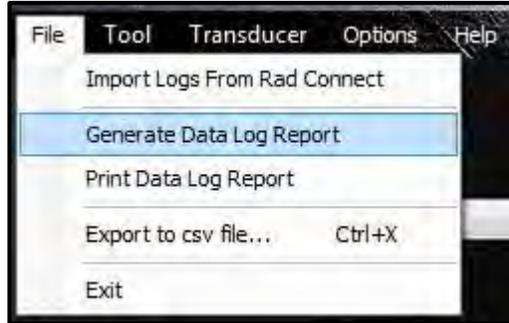

Figure 5.6-1: Generate Report Button
2. In the "File" dropdown menu, press **"Generate Data Log Report"** (Figure 5.6-1).